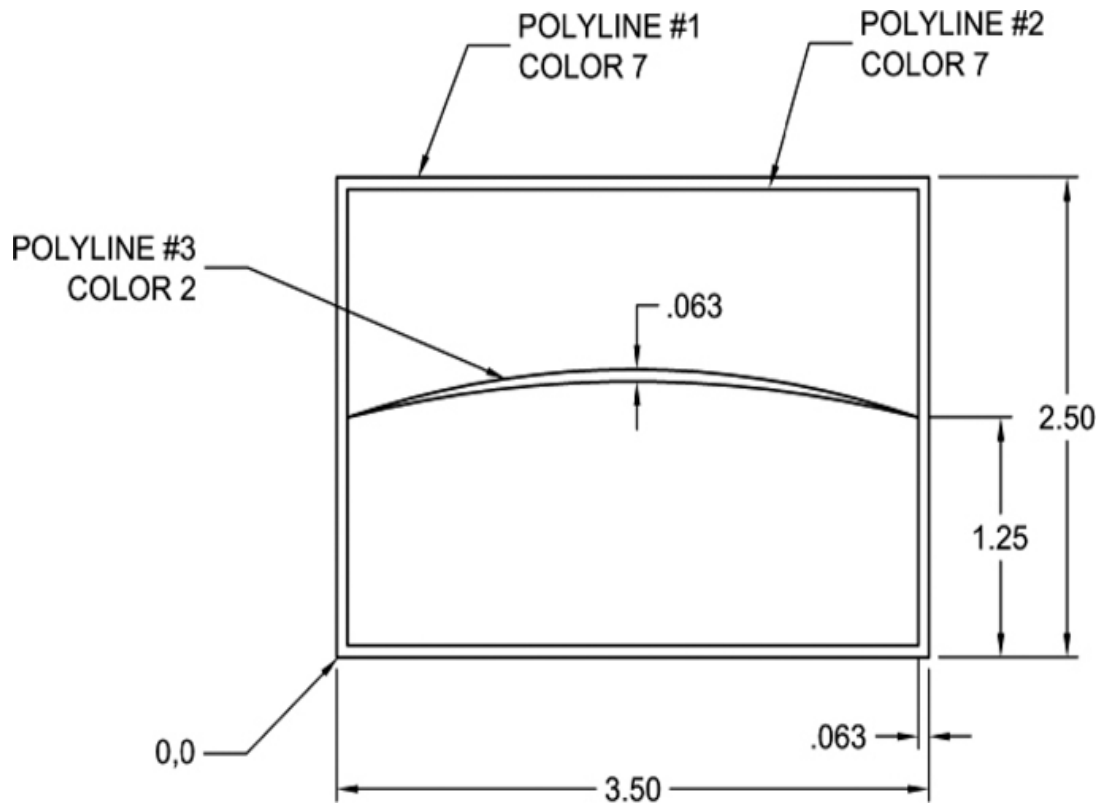

Figure 9-51
2. Create the logo shown in Figure 9-51 using polyline objects. **Do not** draw dimensions.